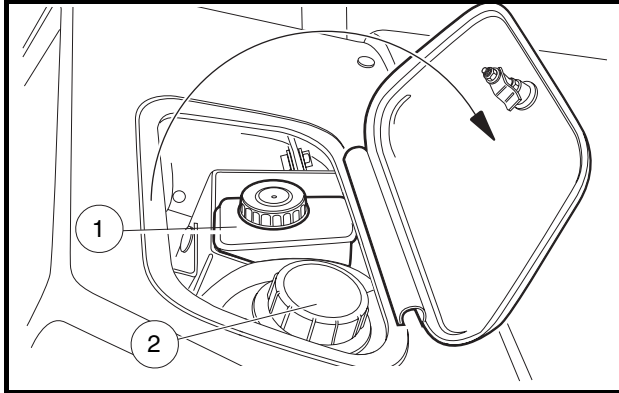

Figure 10-3 Brake Fluid and Coolant Access Door
The brake fluid reservoir (1) is located under the dashboard (**Figure 10-3, Page 10-6**). Raise the access panel located on top of the dashboard to check the brake fluid level.
The coolant reserve tank is located under the dashboard next to the brake fluid reservoir (**Figure 10-3, Page 10-6**). Raise the access panel located on top of the dashboard to check the coolant level before every operation.